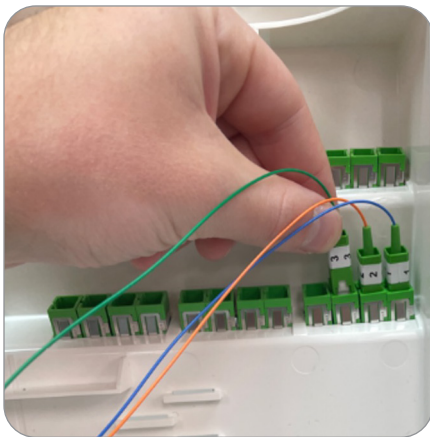

Figure 1
2. Insert the connectors into their respective adapters. It is recommended to insert the connectors in their numerical order to reduce tangling and unnecessary strain on the fibers (Figure 1).